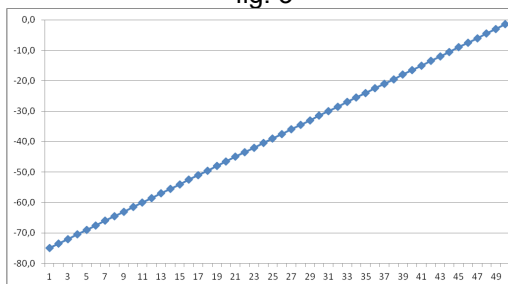

fig. 4
4. Volume Scale #4 – This setting is a linear-in-dB scale (fig. 4)